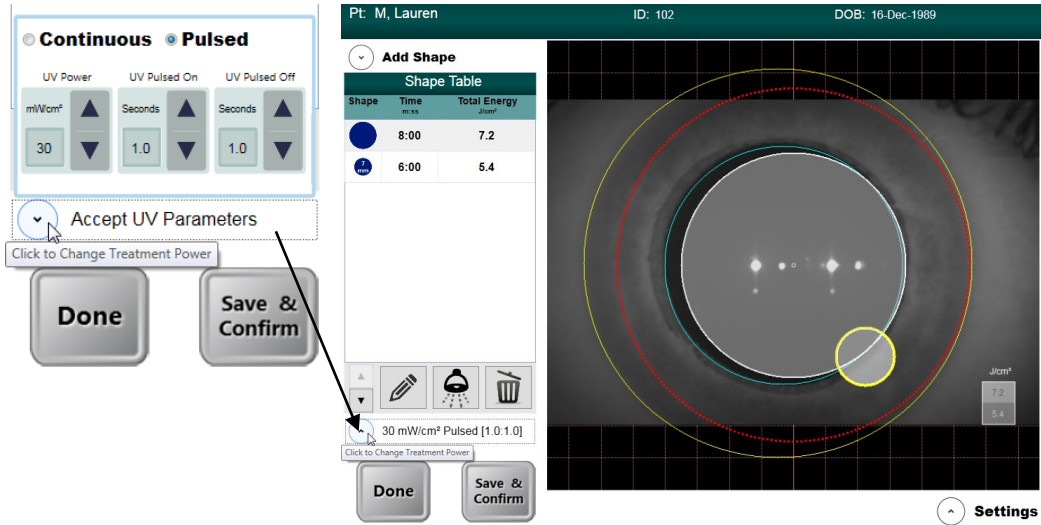

Figure 5-11. Power and Pulse Settings
- Power and UV mode (pulsed or continuous) settings can be modified by clicking on the drop-down menu beside the power (irradiance) value (see Figure 5-11).